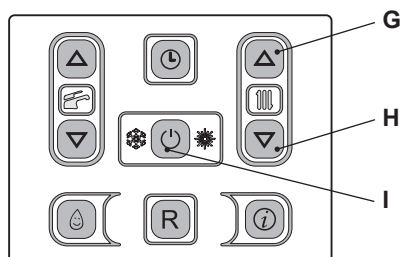
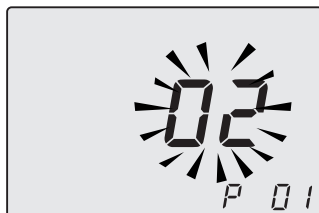
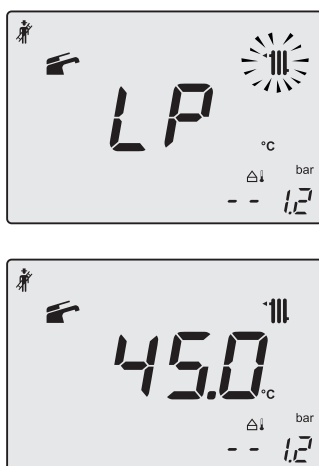
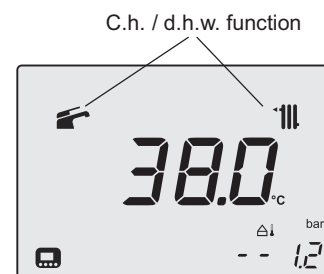

Figure 11.5
Figure 11.6
Figure 11.7
Figure 11.11
- 15 To enter in the parameters setting mode press contemporary the 3 keys (G - H - I Figure 11.5) for 10 second until the display shows Figure 11.6.
- 16 Press keys G and H (Figure 11.5) at the same time until the display shows the letters **LP** that alternate with the heating water temperature value (e.g. 45), indicating the activation of the "chimney sweep function" at minimum output (Figure 11.7).
29 Press keys G - H - I (Figure 11.5) at the same time again to exit the "chimney sweep mode" and return to the previously set boiler status (Figure 11.11)